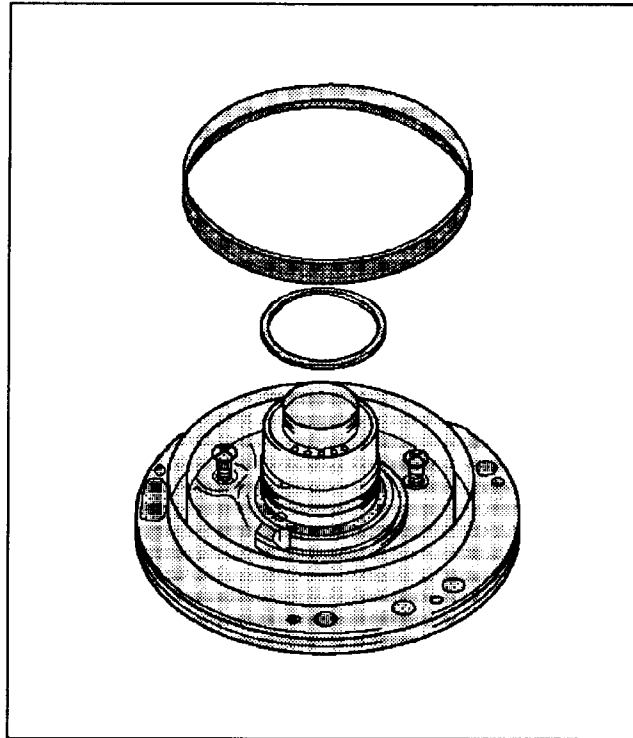

Figure 71
2. Remove the vulcanized B2 clutch piston from the pump assembly (See Figure 71).
3. Carefully remove the pump washer from the stator housing (See Figure 71).
4. Remove the 5 #30 Torx. bolts that hold the stator housing to the pump body and carefully lift the stator housing away from the pump (See Figure 71).